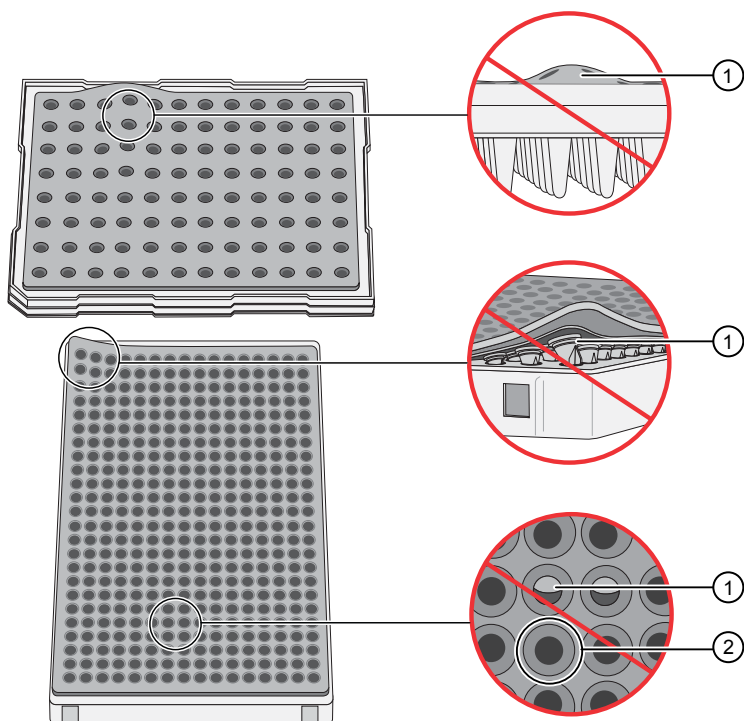

Figure 8 Examples of bad and good septa alignment
Septum seal	<div><p>① Septum ② Plate</p><ol style="list-style-type: none">1. Place the plate on a clean, level surface.2. Place a new septum flat on the plate.3. Align the holes in the septum strip with the wells of the plate, then firmly press downward onto the plate. Ensure that the septum is seated and aligned (see Figure 8).<ul style="list-style-type: none">• The septa lie flat against the plate. Ensure that there are no lumps or raised edges.• The septa are inserted straight into the wells. Ensure that no well openings are obscured by a pinched well.</div>